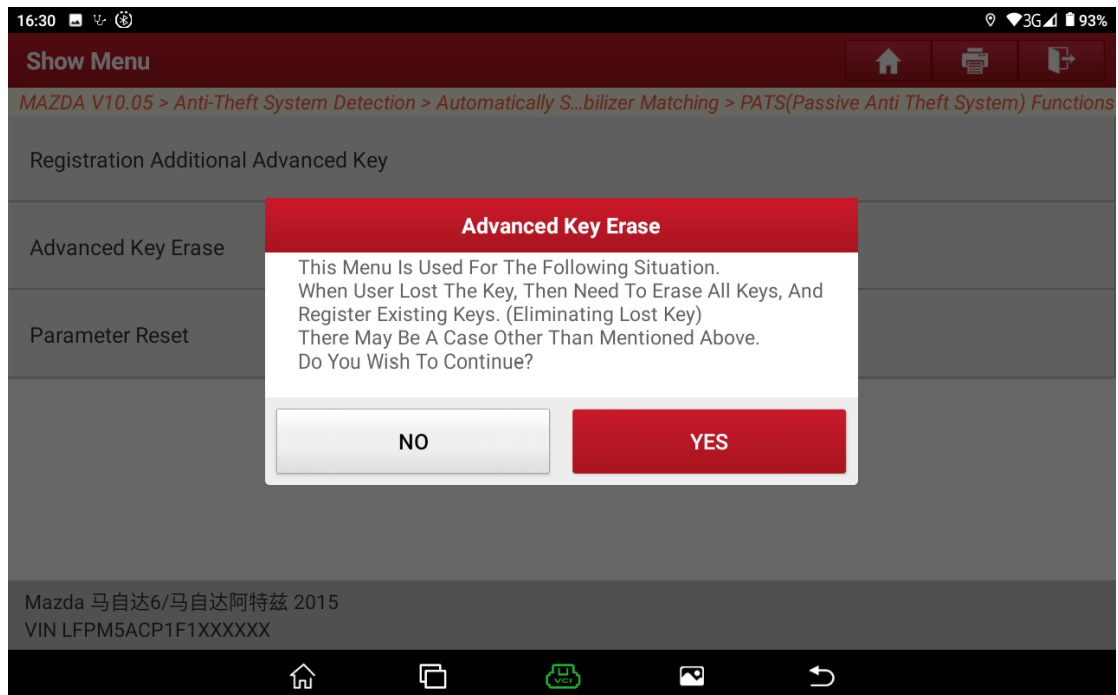

Figure 15
13. The function execution conditions are displayed. Choose [No] to exit the function, or choose [Yes] to access the next step. See Figure 15.